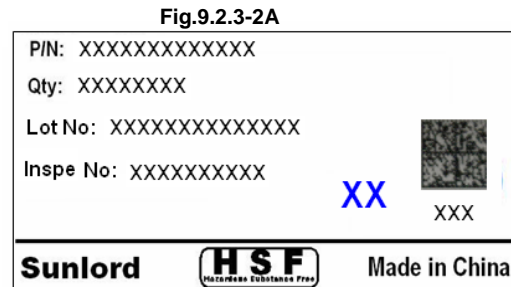

Fig.9.2.3-2A
2) Marking on outer case (refer to **Fig.9.2.3-3~5**):